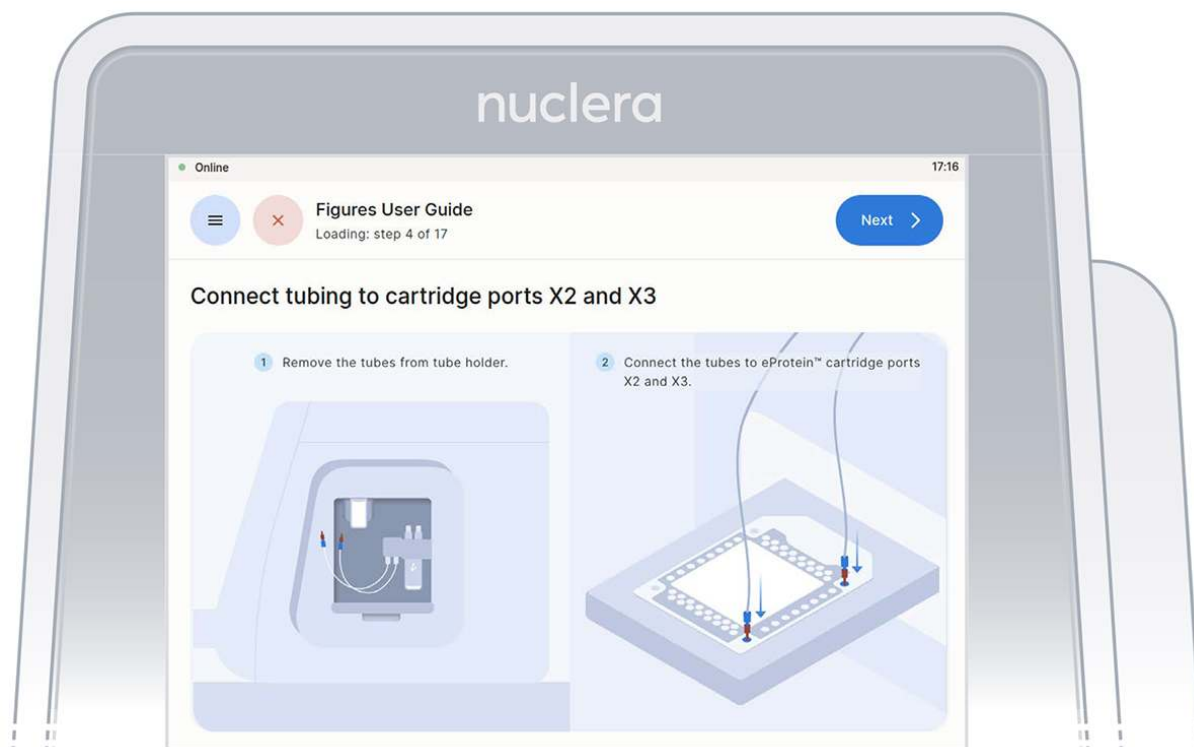

Figure 14: Inspection that all the ports on the cartridge are filled with base fluid
2. Remove the tube connectors from the holder, connect them tightly to the corner ports X2 and X3 of the cartridge, and press the **[Next]** button (Figure 14). Either connector can be interchangeably inserted into corner port X2 or X3.